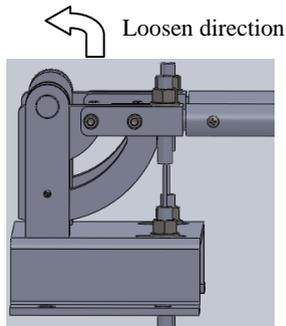

Figure 10
④ Pull the handle to rotate round the shaft, as the brake opened, the brake-loosening movement is finished. Be shown as figure 10: